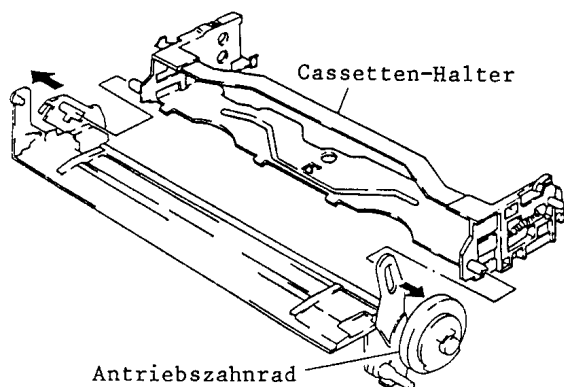

Abb. 5-5 Cassetten-Halter
5. Cassetten-Halter (Abb. 5-5)